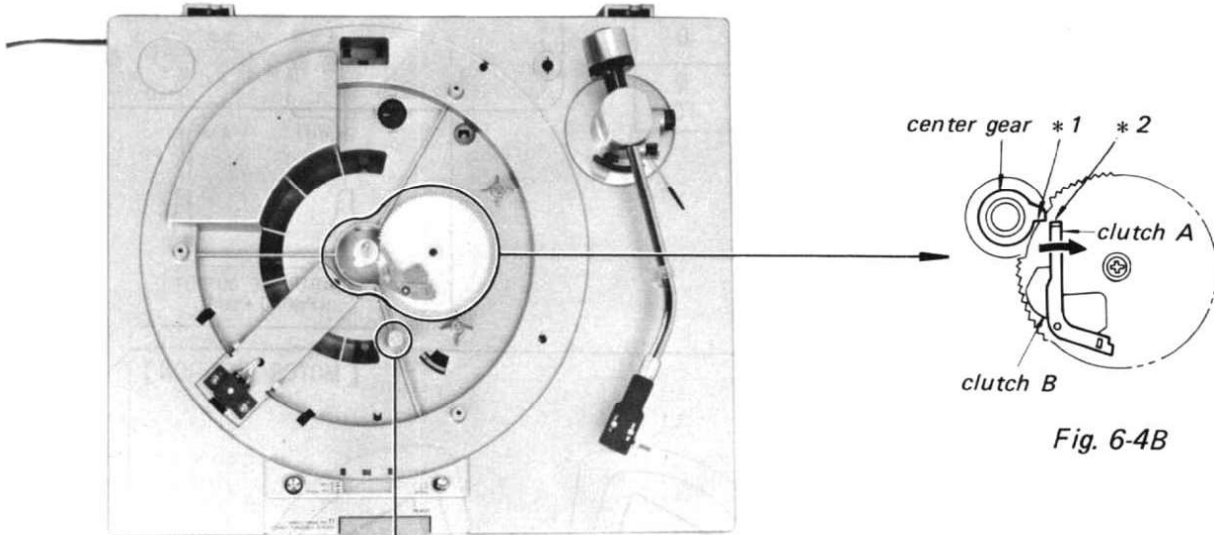
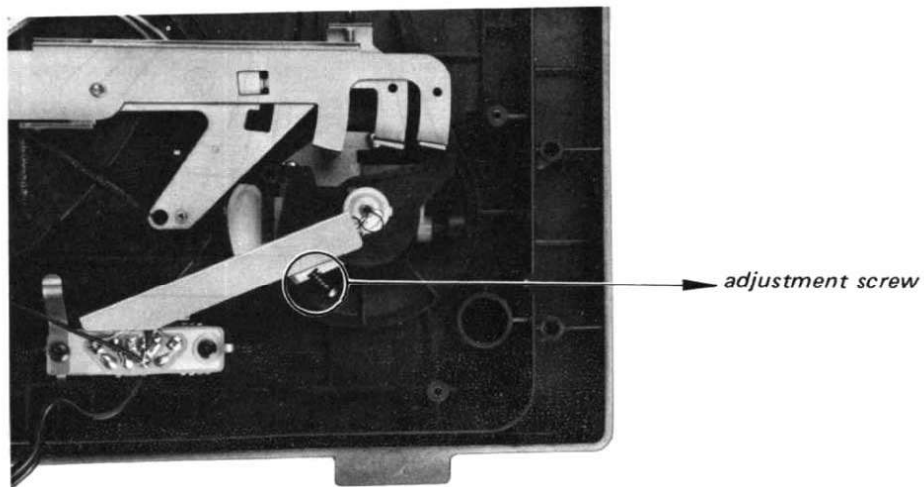

Fig. 6-4B
Fig. 6-5
2. Reset: Move the clutch A and the clutch B in the arrowed direction as shown in Fig. 6-4B.
4. Turn the adjustment screw in Fig. 6-5 so that the portion shown by *1 of the center gear contacts the portion shown by *2 of the clutch A as shown in Fig. 6-4B.